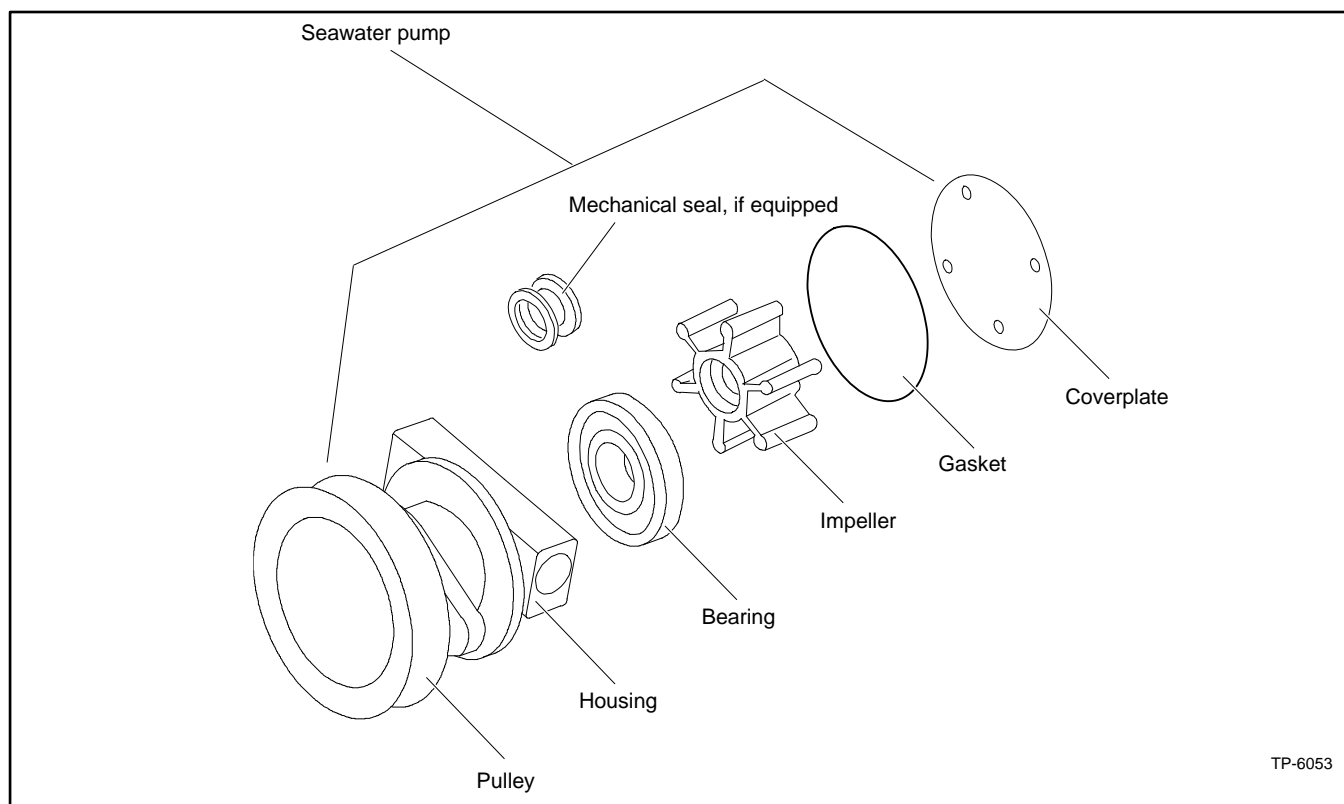

Figure 40 Seawater Pump, Typical
5. Remove the seawater pump cover plate. See Figure 40.